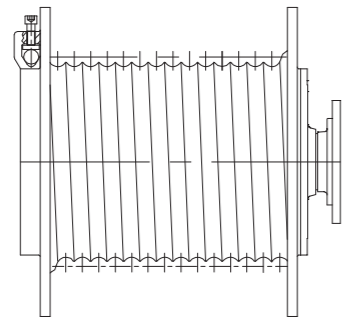
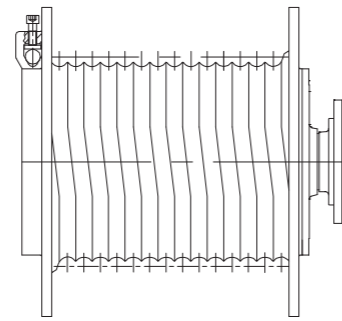

图1 Figure 1
图2 Figure 2
- 1) 标准沟槽卷筒(图1)和特殊沟槽卷筒(图2)。
- 2) 沟槽方向分左旋和右旋,默认为右旋(图1)。
- 1) Drum with normal grooves (figure 1) and with special grooves (figure 2).
- 2) Rope groove has right hand lead and left hand. The default lead is right hand (figure 1).